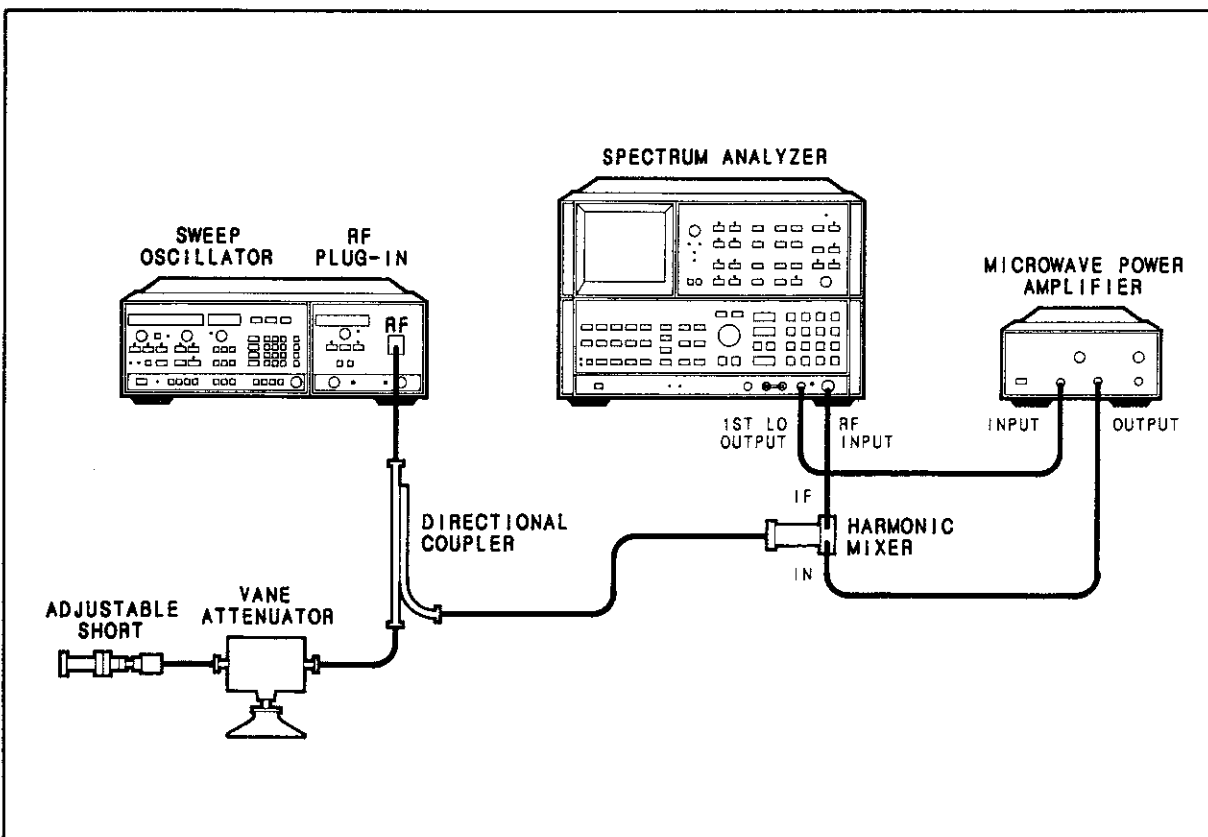

Figure 4-8. Frequency Change with 3:1 Load SWR Test Setup
11. Connect the equipment as shown in Figure 4-8. Set the vane attenuator to 3 dB. Press 8350A/B [INSTR PRESET] [CW] [3] [3] [GHz].